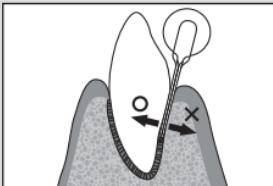

Fig. 4
Points to remember: Since bone resorption easily occurs on the labial side, caution is required in the way of moving the tip apex so as not to damage the alveolar bone (Fig. 4). Attention should also be given to contact with the existing tooth.
- In order to prevent damage to the alveolar bone, move the tip apex along the tooth to the extent possible (Fig. 4).